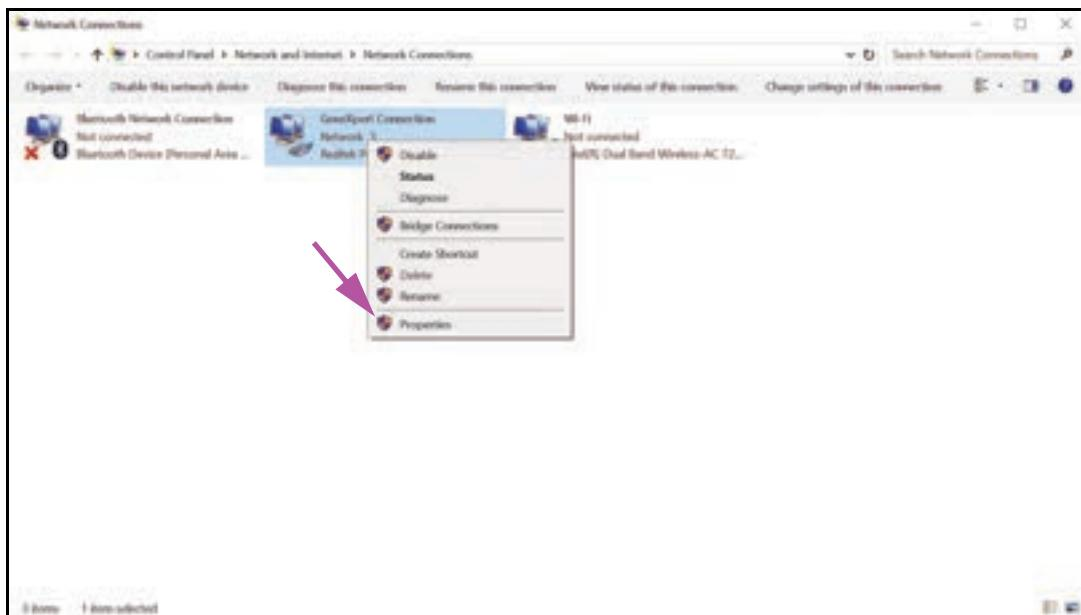

Figure 2-47. Network Connections Screen with Drop-Down Menu
6. Right click the **GeneXpert Connection** entry. A drop-down menu appears. See Figure 2-47.